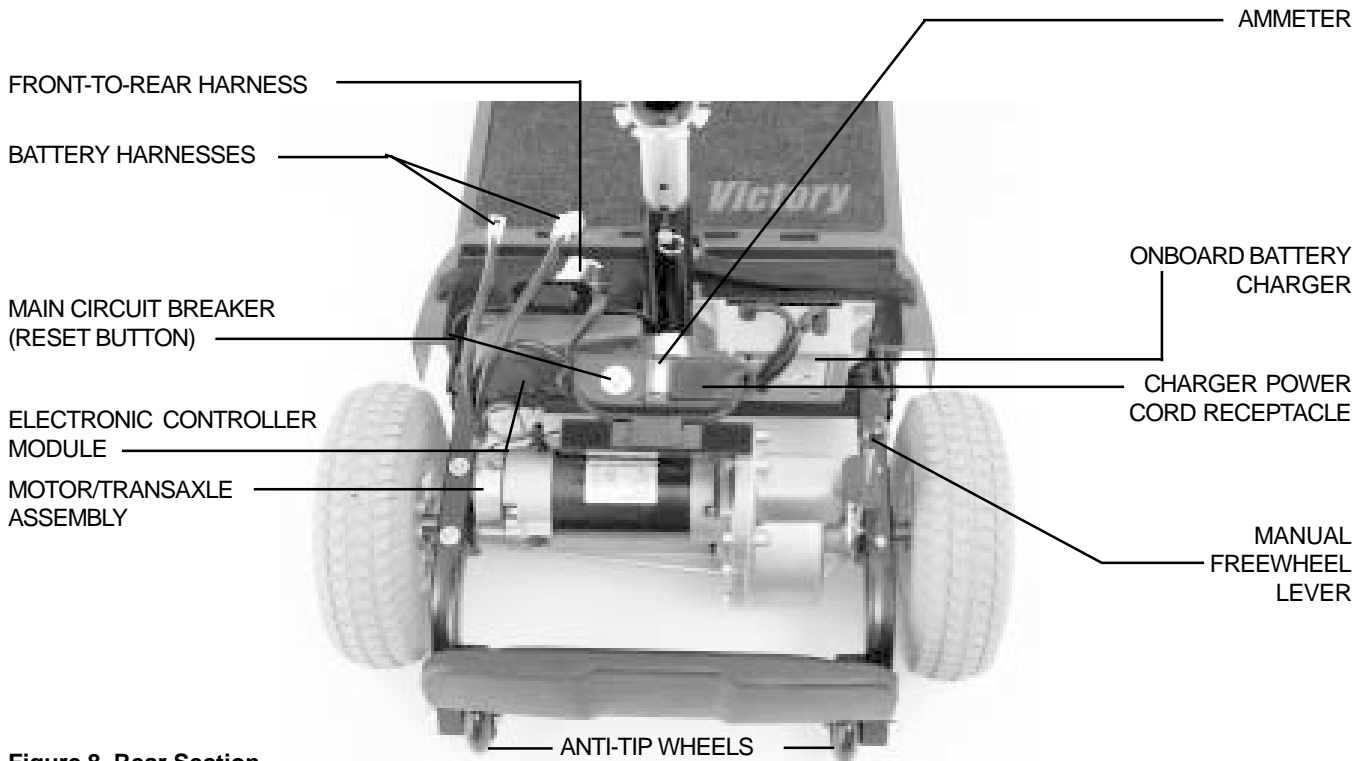

Figure 8. Rear Section
The onboard battery charger, the charger power cord receptacle, the ammeter, the batteries (not shown), the electronic controller module, the main circuit breaker (reset button), the manual freewheel lever, and the motor/transaxle assembly are located on the rear section of your scooter. See figure 8. Refer to IX. “Disassembly and Assembly” for instructions on removing the rear shroud.
- The charger power cord plugs into your scooter’s battery charger by means of a receptacle located on the rear section of your scooter, near the manual freewheel lever and the main circuit breaker reset button. See figure 8.
- The main circuit breaker is mounted on the rear section of the scooter. See figure 8.
The motor/transaxle assembly consists of a geared transmission and differential. This one piece, direct drive, fully sealed assembly provides quiet operation with maximum power and long life. See figure 8.
The anti-tip wheels are an integral and important safety feature of your scooter. Do not, under any circumstances, remove the anti-tip wheels from your scooter. See figure 8.